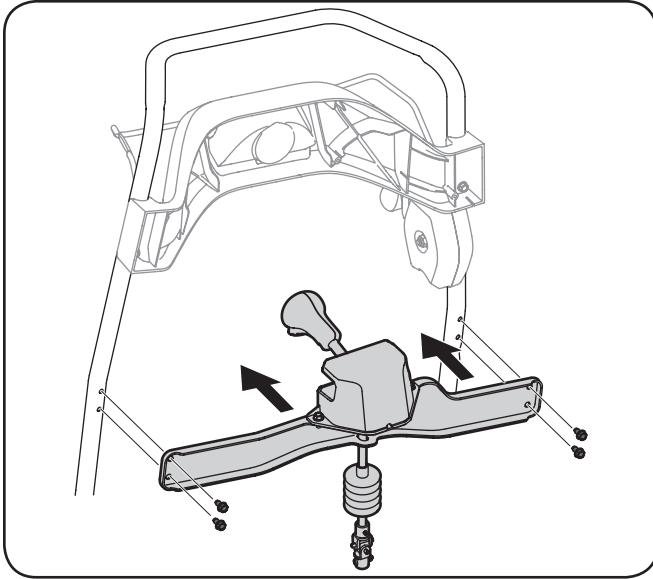

Figure 3-8
- Using the four hex washer screws, install the chute rotation control assembly. See Figure 3-8.